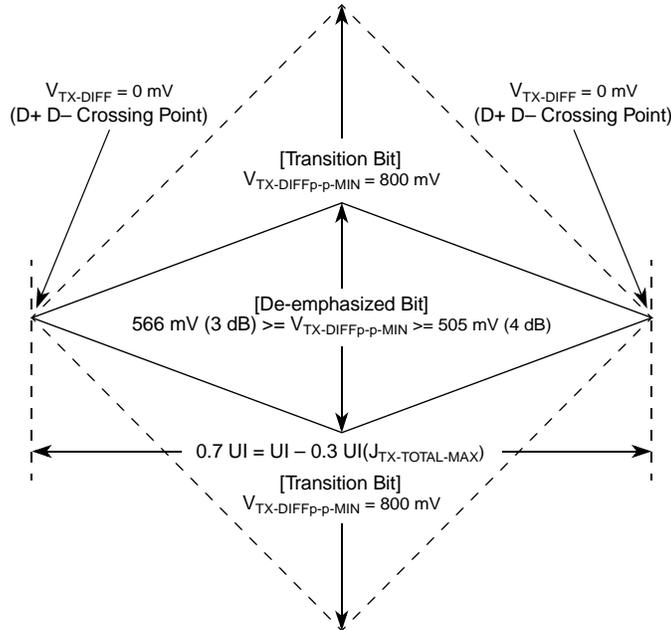
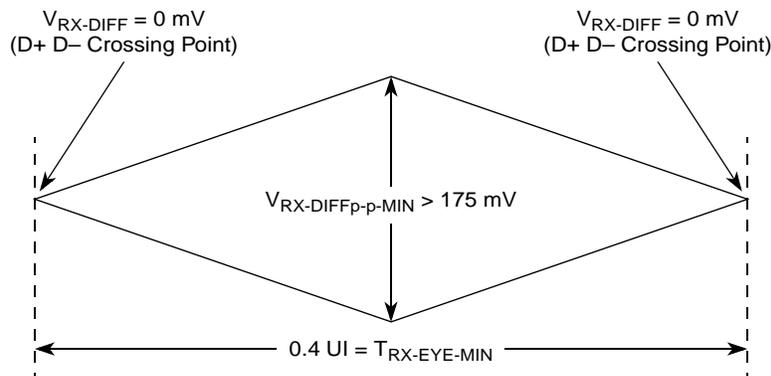
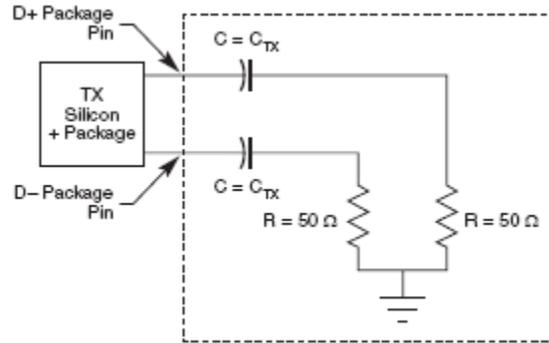

Figure 49. Minimum Transmitter Timing and Voltage Output Compliance Specifications
Figure 50. Minimum Receiver Eye Timing and Voltage Compliance Specification
Figure 51. Compliance Test/Measurement Load
2. Specified at the measurement point into a timing and voltage compliance test load as shown in Figure 51 and measured over any 250 consecutive TX UIs. (Also refer to the transmitter compliance eye diagram shown in Figure 49.)
4. The transmitter input impedance shall result in a differential return loss greater than or equal to 12 dB and a common mode return loss greater than or equal to 6 dB over a frequency range of 50 MHz to 1.25 GHz. This input impedance requirement applies to all valid input levels. The reference impedance for return loss measurements is 50 Ω to ground for both the D+ and D- line (that is, as measured by a vector network analyzer with 50- Ω probes, see Figure 51). Note that the series capacitors, C_{TX} , is optional for the return loss measurement.
5. Measured between 20%–80% at transmitter package pins into a test load as shown in Figure 51 for both V_{TX-D+} and V_{TX-D-} .
The TX eye diagram in Figure 49 is specified using the passive compliance/test measurement load (see Figure 51) in place of any real PCI Express interconnect + RX component. There are two eye diagrams that must be met for the transmitter. Both diagrams must be aligned in time using the jitter median to locate the center of the eye diagram. The different eye diagrams differ in voltage depending on whether it is a transition bit or a de-emphasized bit. The exact reduced voltage level of the de-emphasized bit is always relative to the transition bit.
- Specified at the measurement point and measured over any 250 consecutive UIs. The test load in Figure 51 should be used as the RX device when taking measurements (also refer to the receiver compliance eye diagram shown in Figure 50). If the clocks to the RX and TX are not derived from the same reference clock, the TX UI recovered from 3500 consecutive UI must be used as a reference for the eye diagram.
- The receiver input impedance shall result in a differential return loss greater than or equal to 15 dB with the D+ line biased to 300 mV and the D- line biased to -300 mV and a common mode return loss greater than or equal to 6 dB (no bias required) over a frequency range of 50 MHz to 1.25 GHz. This input impedance requirement applies to all valid input levels. The reference impedance for return loss measurements for is 50 Ω to ground for both the D+ and D- line (that is, as measured by a vector network analyzer with 50- Ω probes, see Figure 51). Note that the series capacitors, C_{TX} , is optional for the return loss measurement.
The RX eye diagram in Figure 50 is specified using the passive compliance/test measurement load (see Figure 51) in place of any real PCI Express RX component. In general, the minimum receiver eye diagram measured with the compliance/test measurement load (see Figure 51) is larger than the minimum receiver eye diagram measured over a range of systems at the input receiver of any real PCI Express component. The degraded eye diagram at the input Receiver is due to traces internal to the package as well as silicon parasitic characteristics which cause the real PCI Express component to vary in impedance from the compliance/test measurement load. The input receiver eye diagram is implementation specific and is not specified. RX component designer should provide additional margin to adequately compensate for the degraded minimum Receiver eye diagram (shown in Figure 50) expected at the input receiver based on an adequate combination of system simulations and the return loss measured looking into the RX package and silicon. The RX eye diagram must be aligned in time using the jitter median to locate the center of the eye diagram.
The reference impedance for return loss measurements is 50 Ω to ground for both the D+ and D- line (that is, as measured by a Vector Network Analyzer with 50 Ω probes—see Figure 51). Note that the series capacitors, $C_{PEACCTX}$, are optional for the return loss measurement.
The AC timing and voltage parameters must be verified at the measurement point, as specified within 0.2 inches of the package pins, into a test/measurement load shown in Figure 51.